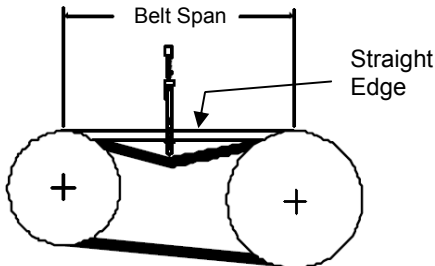

Fig. 1
1. Measure the belt span in inches as shown in **fig.1**.
4. Place the tension checker squarely on the belt at the center of the belt span (See Photograph above). Push on the plunger perpendicular to the belt span until the bottom of the large "O" ring is even with the top of the adjacent (next) belt or with the bottom of a straight edge laid across the outside diameters of the V-belt sheaves as shown in fig.1.